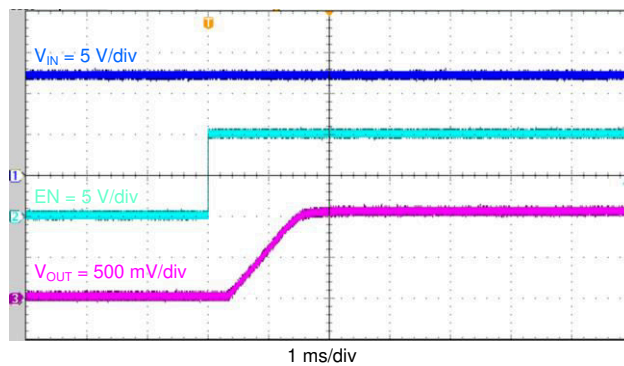

Figure 4-11. Start-Up Relative to EN
The TPS565201EVM-858 start-up waveform relative to enable (EN) is shown in Figure 4-11. Load = 1 Ω resistive.